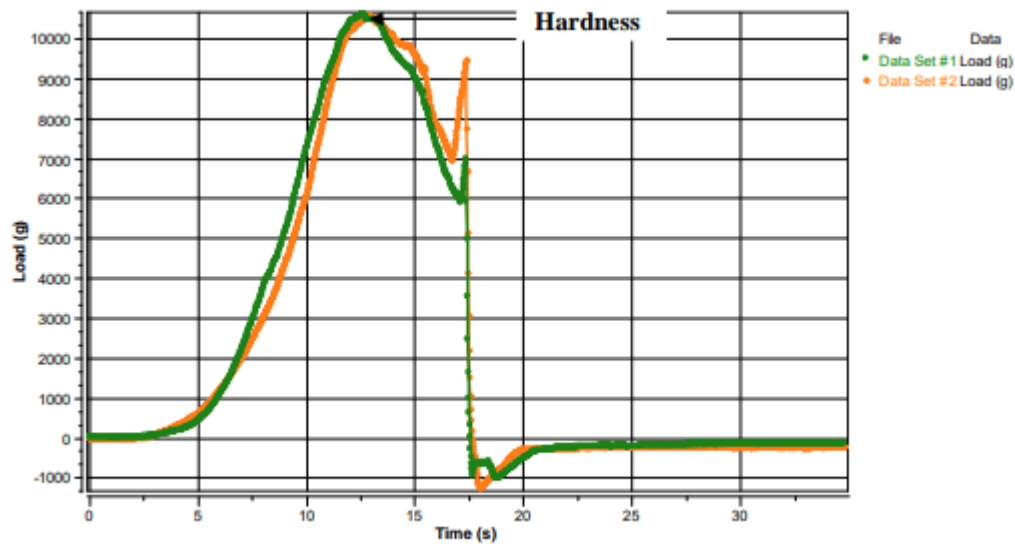

Figure 1
- Figure 1: Load vs. Time graph shows maximum peak force, indicating sample hardness/firmness.
- Maximum Force Value: Indicates sample hardness/firmness, correlating with the force needed to compress the sample (Figures 1 and 2).